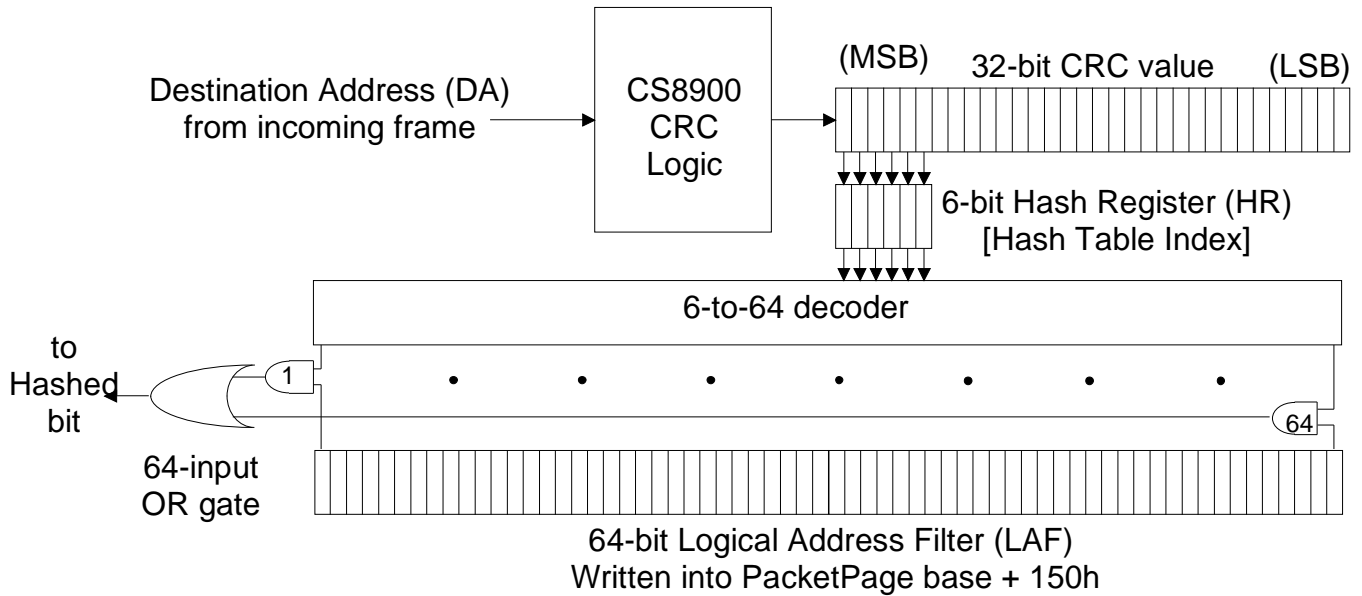

Figure 5.5. Hash Filter Operation
Hash Filter Operation: See Figure 5.5. The DA of the incoming frame is passed through the CRC logic, generating a 32-bit CRC value. The six most-significant bits of the CRC are latched into the 6-bit hash register (HR). The contents of the HR are passed through a 6-to-64-bit decoder, asserting one of the decoder’s outputs. The asserted output is compared with a corresponding bit in the 64-bit Logical Address Filter, located at PacketPage base + 0150h. If the decoder output and the Logical Address Filter bit match, the frame passes the hash filter and the Hashed bit (Register 4, RxEvent, Bit 9) is set. If the two do not match, the frame fails the filter and the Hashed bit is clear.